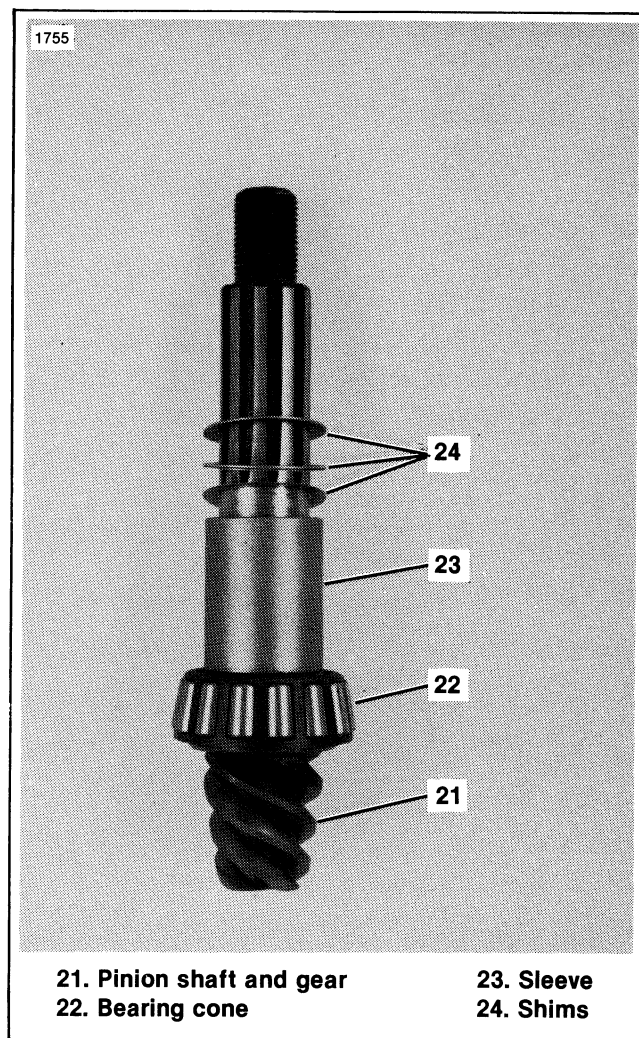

Figure 3-23. Pinion Assembly Ready to Install in Housing
9. Install pinion bearing (22), spacer (23) and original preload shims (24) on pinion shaft (21). If original preload shims (24) are damaged, replace with new shim pack of same thickness (Figure 3-23).
10. See Figure 3-23. Install pinion shaft (21) along with bearing (22), spacer (23), and shims (24) into housing.